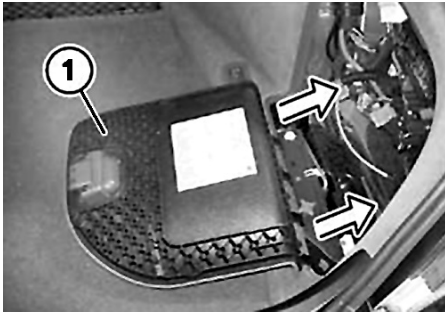

Fig. 2 Access door removal
4. Snap door (1) in direction of arrow and remove, **Fig. 2**.